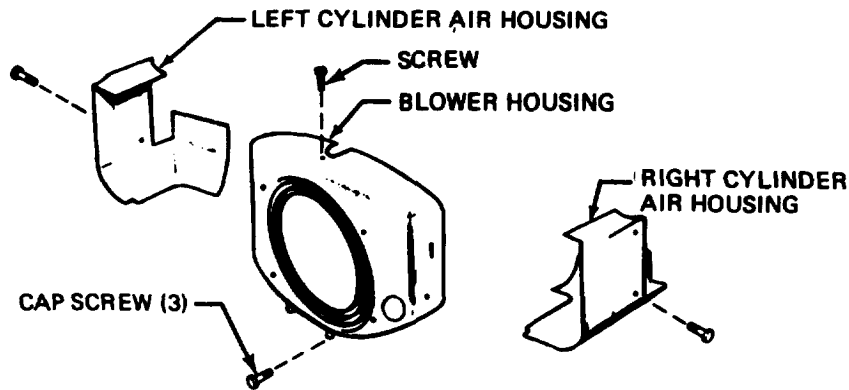

Figure 4-23. Cooling Shroud (RGMD-K/1-10)
- (1) Remove blower housing (fig. 4-23) by removing three cap screws and a screw on top of housing,
- (2) Remove solenoid starter per paragraph 4-54.